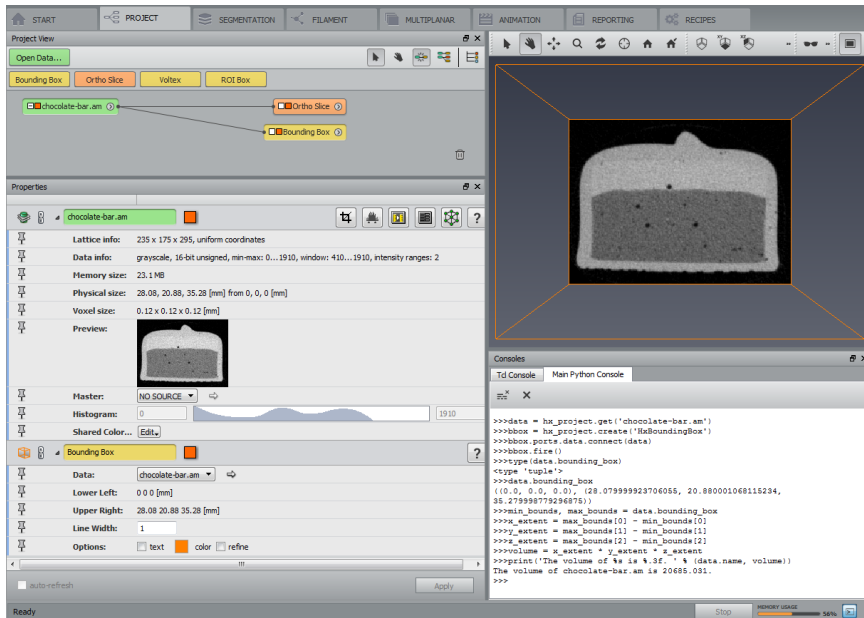

Figure 9.8: Object Information by Python Console
7. Finally, print the information to the console in a refined format (See Figure 9.8).